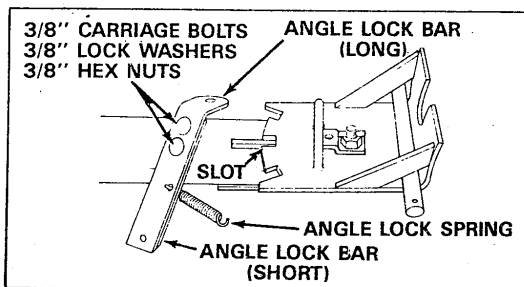

FIGURE 2
1. Assemble (long) angle lock bar, and (short) angle lock bar together using two 3/8" x 1" carriage bolts, 3/8" lock washers and 3/8" hex nuts, Do Not Tighten. See figure 2.
2. Assemble angle lock spring through angle lock bars positioning end hook as shown. See Figures 2 and 3.
3. Assemble hook of angle lock spring into hole of bracket under pivot bolt. Pull lock bars up to extend spring just enough to allow assembly of angle lock bars down through slot in pivot bracket and channel. See figures 2 and 3.